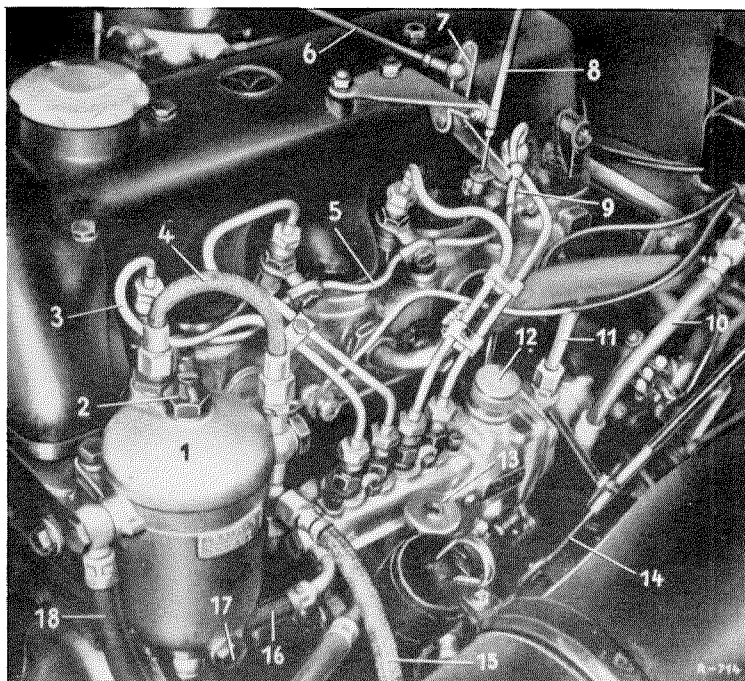

Figure 07-4/27
The control linkage connects the accelerator with the throttle duct, i.e., the throttle shaft, and from the other side of the throttle shaft it extends via the cylinder head cover (see Figure 07-4/27, connection rod 6) to the angular lever (7) and from the angular lever (7) the connection rod (9) extends to the lever for the mechanical additional control on the injection pump governor (Stupser). The linkage is adjusted in such a way that the 'Stupser' is completely front in direction 'full' (lever, bottom at stop) with the throttle in idling position and is completely rear in direction 'stop' (lever top) with fully opened throttle (see Figure 07-4/26).